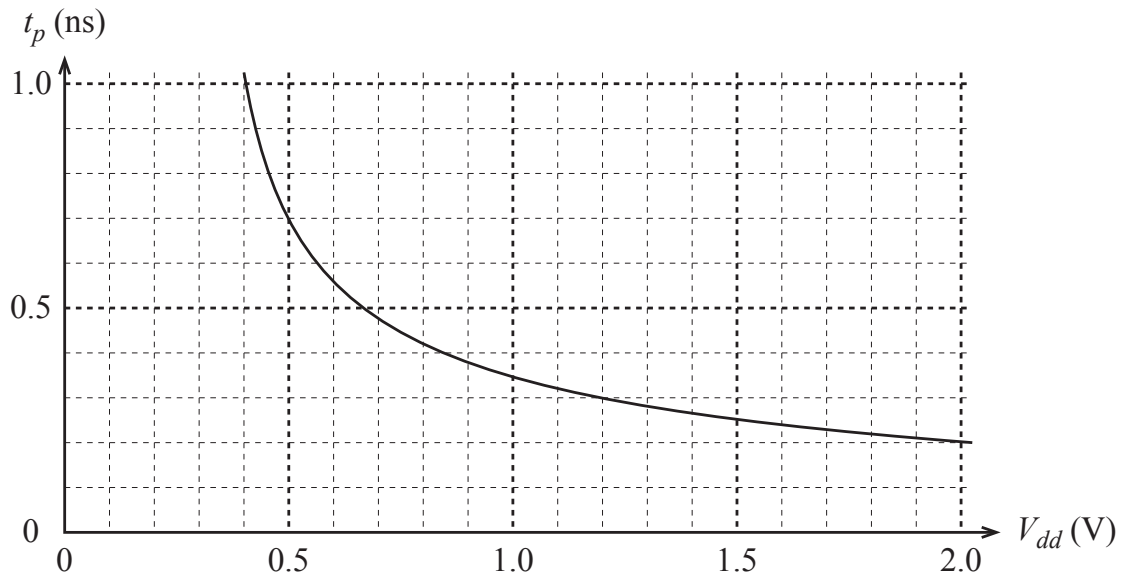

Figure 1.  $t_p(V_{dd})$  of an FA.
In Figure 1 the propagation delay of a full adder is plotted as a function of supply voltage. What is the lowest supply voltage that can be used for a 4-bit Ripple Carry Adder (RCA) that should have a delay of at most 2 ns?
- How much relative power can be saved if we scale the supply voltage so that the Carry Select Adder obtains the same delay as the Ripple Carry Adder operating at a supply voltage of 2.0 V? Assume that the delay  $t_a$  of a full adder varies with supply voltage according to the graph shown in Figure 1, and the switched capacitances of an FA and a multiplexer are  $C_{FA}$  and  $C_{MUX} = C_{FA}/3$ , respectively.
Four FAs need to be cascaded in the 4-bit RCA. For a total delay of 2 ns, each FA can at most have a delay of 0.5 ns. Hence the minimum supply voltage that can be used for the FAs is approximately 0.7 V according to Figure 1.